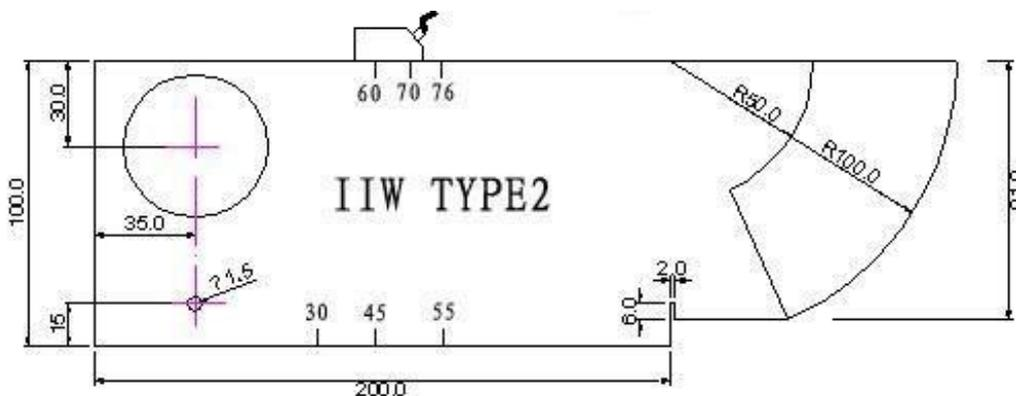

Fig.4.2 ANG ECHO
- (2) By \square you can see ANG echo, Then put your probe as fig4.2, Try to find the highest echo of the hole (\varnothing 50), then press \square , you will see ANG=XXX.X.